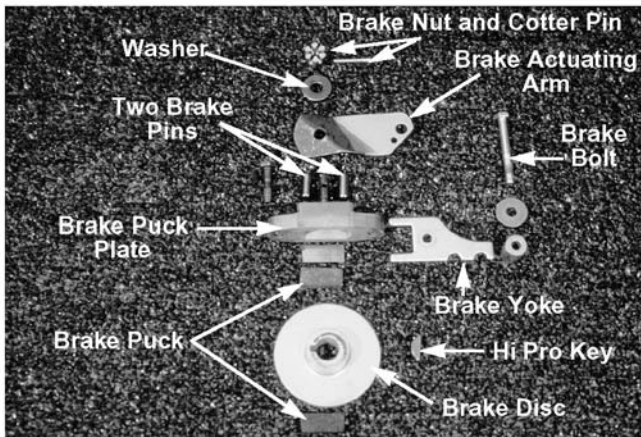

Figure 5-11.
13. Removal and inspection for the right hand axle horn assembly is the same as the left hand axle horn. See Figure 5-11.